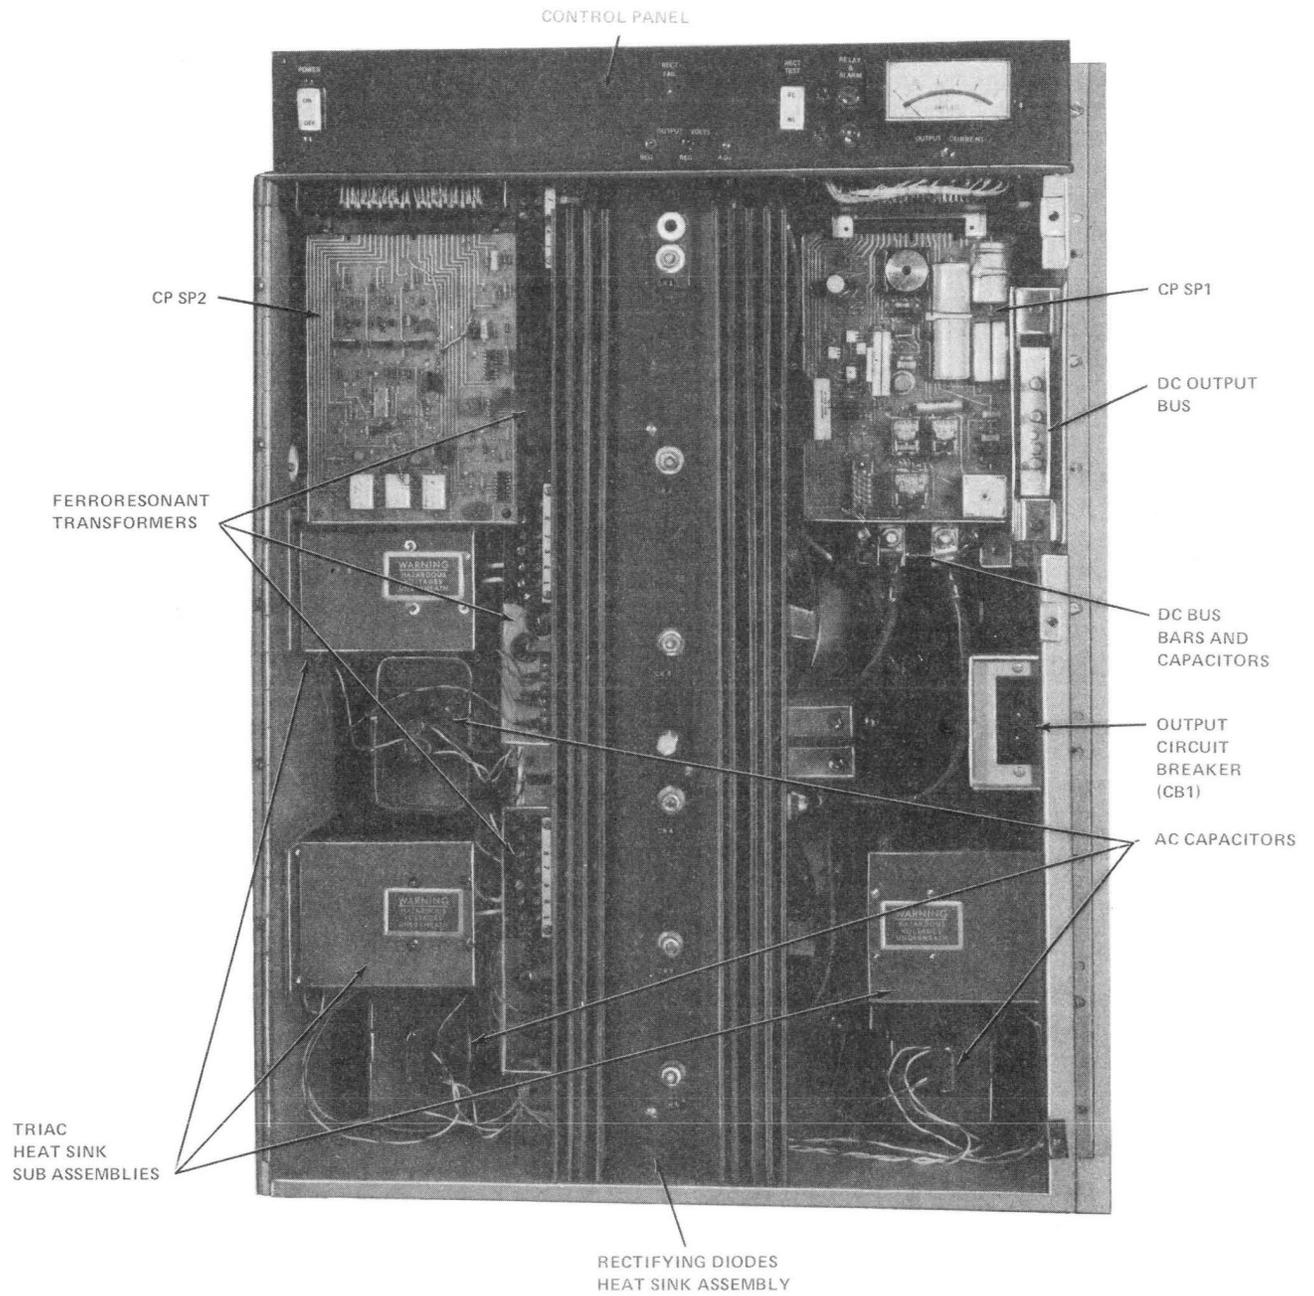

Fig. 5—J87437A, L1 and L3, or L2 and L3, Rectifier—Front Panel Open
**2.05** The front door of the J87437A rectifier swings open to allow access to components inside (Fig. 5). The rectifier contains three ferroresonant transformers; one for each ac input phase. A large heat sink holding the rectifying diodes is mounted over the transformers. The regulation, control, and alarm circuits are contained on two printed wiring boards (CP SP1 and CP SP2) which plug into connectors inside the rectifier. Other rectifier components include triac heat sink assemblies, ac capacitors, iron-core inductors, dc output capacitors, and bus bars.